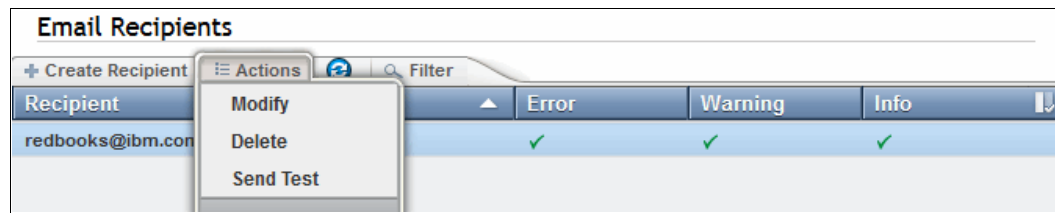

Figure 4-31 Email Recipients Actions menu
5. After a recipient is created, you can then modify the user, delete the user, or send a test email to the user from the Actions menu, as shown in Figure 4-31.